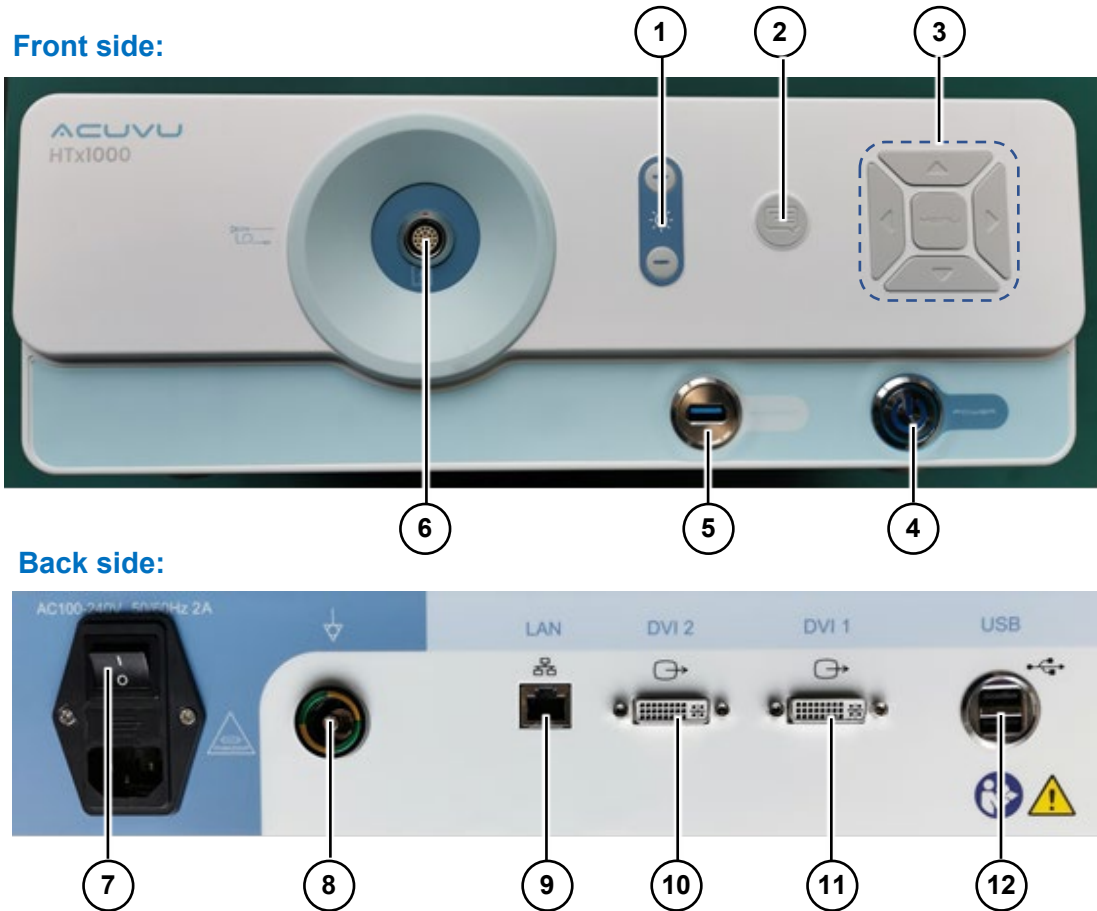

Figure 2 Interfaces of the Image Processing System
- 3) Connect Image Processing System to a monitor via the DVI interface and to a keyboard via the USB port (see Figure 2 for details of the connection interfaces).